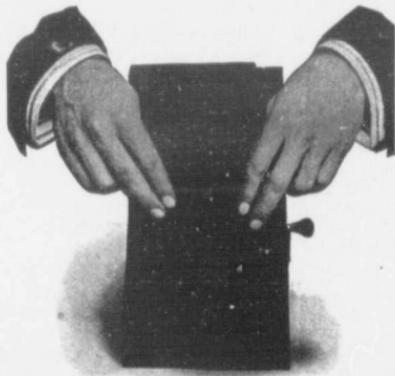

FIG. 2.
4. Attach one end of the apron to spindle, through which axle "C" passes, by means of the metal hooks which are to be engaged with the lugs on the spindle. (Fig. 2). The corrugated side of the rubber bands is to be beneath the apron when it is attached. Turn to the left on axle "C" and wind entire apron on to axle, maintaining a slight tension on apron, in so doing, by resting one hand on it.